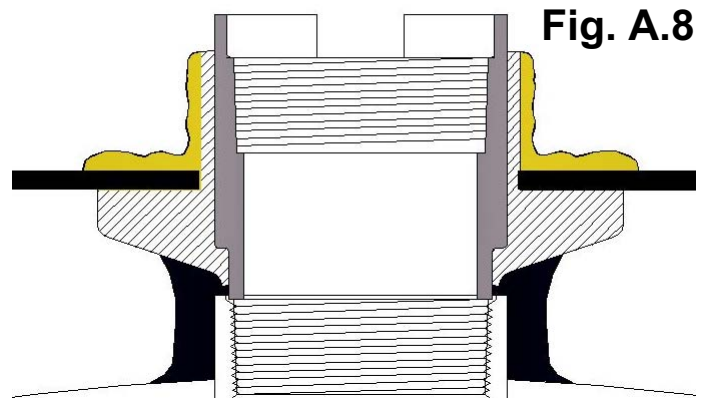

Fig. A.8
A.8 - Add more adhesive to the exposed fiberglass areas of the Tank Sump and fitting. (Fig. A.8)